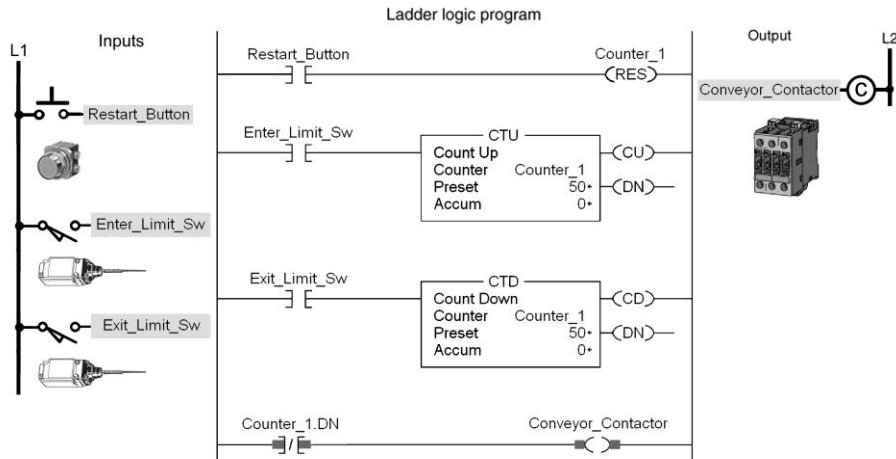

Figure 15-38
3) An example of CTU and CTD counters used together is shown in Figure 15-38 and described in the text.